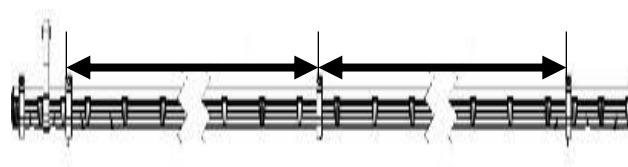

Figure 271
9. The center clamps are installed depending on the size of the header. On the 25 foot headers the clamps are installed 65 1/8" from the inside clamps. On the 30-50 foot headers the center clamps are placed 125 1/8" from the inside clamps. Figure 271